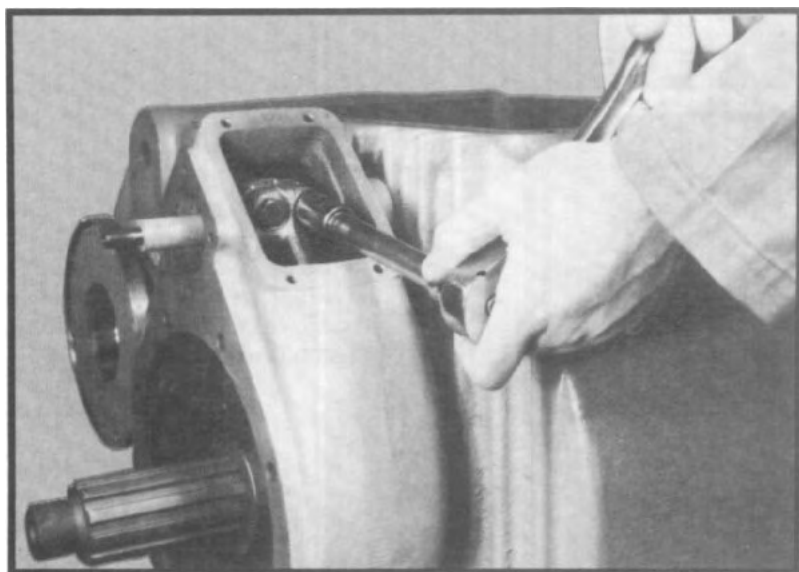

Fig. 164
5. Install two shift fork clamping screws and tighten to correct torque. Secure clamp screws with lockwire. (See fig. 164.) If clamp screw heads are not easily accessible as shown, the shift fork is installed backward.